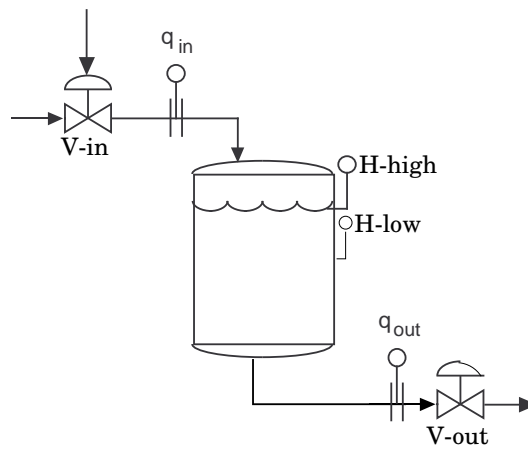

Figure 5 The buffer tank in Problem 7.
7. An on-off controller is used to control a buffer tank. The buffer tank is shown in Figure 5.